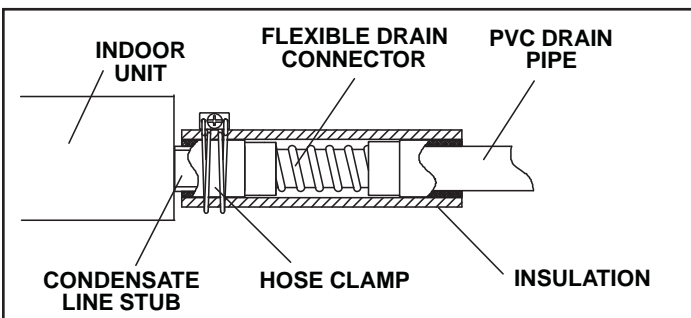

Figure 8. Condensate Drain Connection
- Use the provided hose clamp to secure the provided flexible condensate drain connector and insulating sleeve to the drain line stub on the side of the indoor unit. See figure 8. **NOTE** - Take care not to over-tighten the hose clamps this may damage the drain line stub.